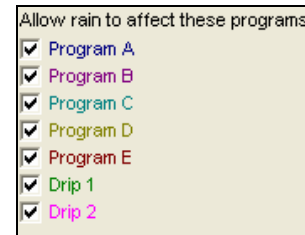

Figure 16.4.21D
- In the **“Allow Rain To Affect These Programs”** section check the box next to each program that you want rain to factor into (Figure 16.4.21D).